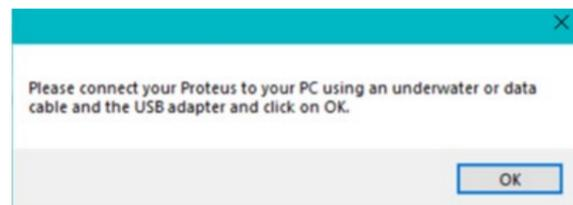

Figure 14: PCI Connection command prompt.
3. The Proteus Manager window will shut and a prompt (Figure 14) will show, click 'ok'.
1. Following option selection, a dialogue box (Fig 14) will open which needs to be filled.